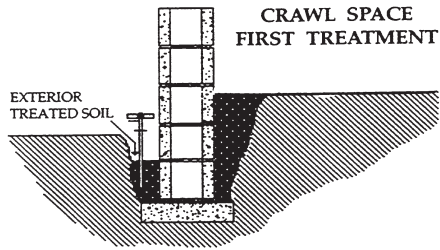

Figure 6-3. Preconstruction treatment of inside and outside foundation perimeter.
**Soil Treatments.** The soil adjacent to foundation walls are treated by trenching and rodding along the inside of the foundation (**Figure 6-3**).